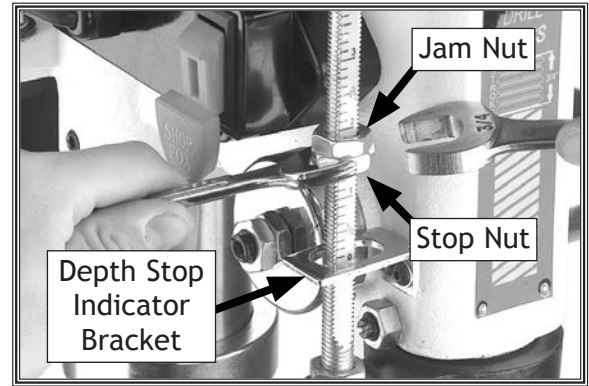

Figure 41. Actual stop depth being measured.
4. Loosen the jam nut on the depth stop rod (see **Figure 41**).
8. With spindle at the desired depth, thread the stop nut down against the depth stop indicator bracket (see **Figure 41**).